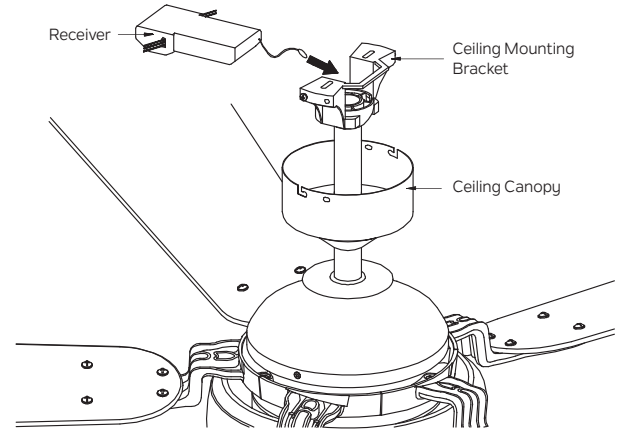

Fig. 15
**Step 1.** Once the connection has been made, the receiver inserts into the drop rod hanging bracket. The canopy comes up to cover the receiver and bracket. (Fig. 15)